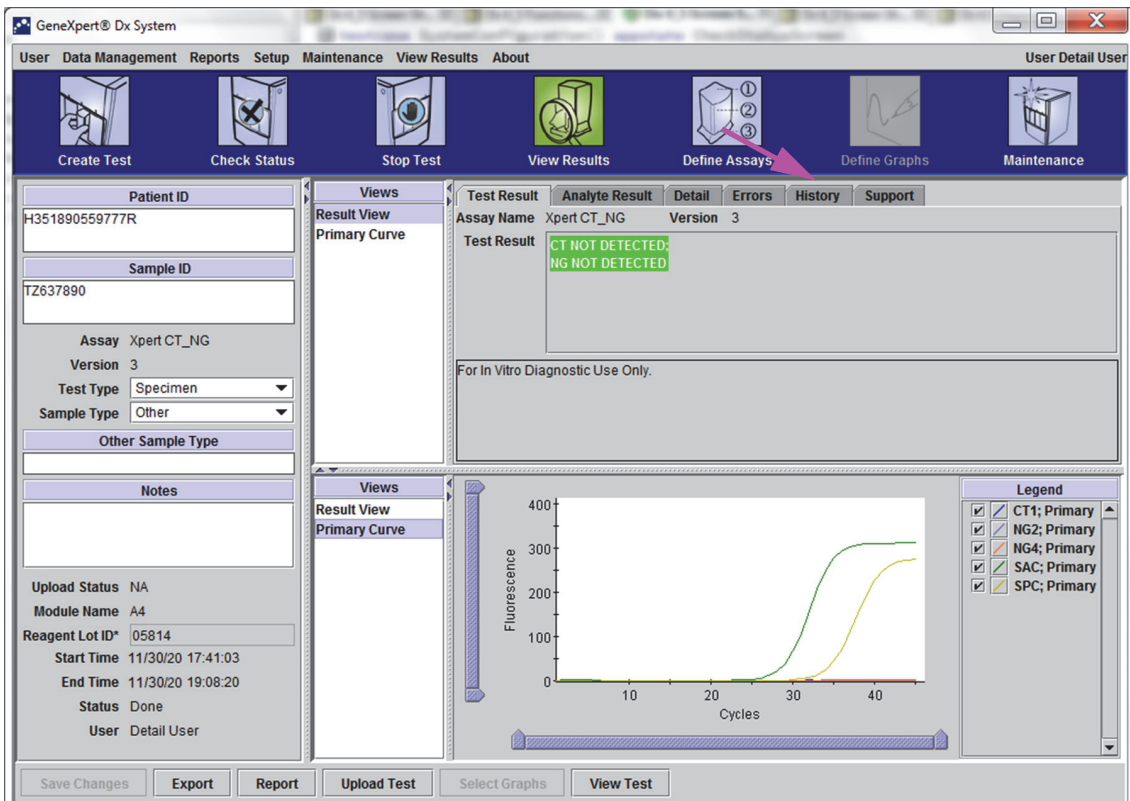
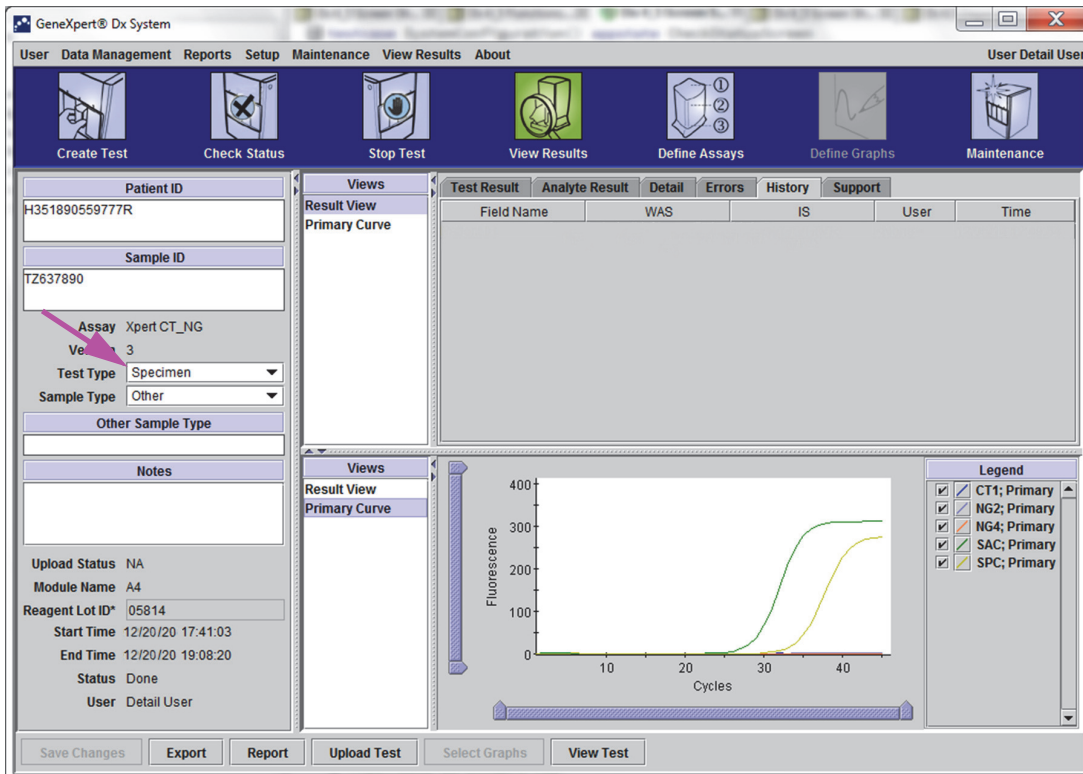

Figure 5-39. GeneXpert Dx System, View Results Window (Detail Users and Administrator View)
Figure 5-40. GeneXpert Dx View Results Window—History Tab Selected
2. Click the **History** tab in the View Results screen (see Figure 5-39). The **History** tab is displayed, showing that no changes have been made to the test. See Figure 5-40.